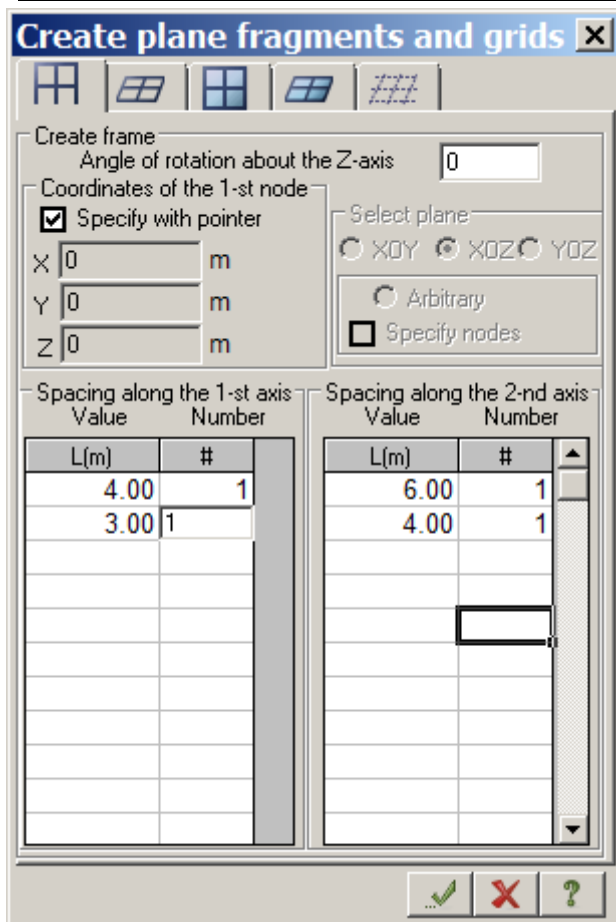

Figure 1.5 Create plane fragments and grids dialog box
- other parameters remain by default (see Fig.1.5).